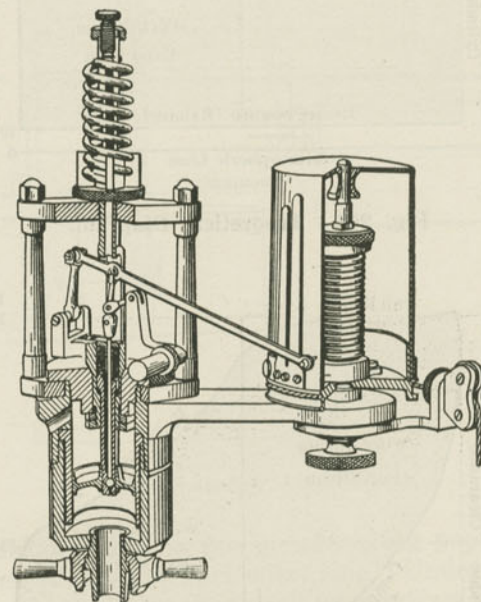

Fig. 266. Crosby Indicator.
*A.* There is a small cylinder (see Fig. 266) which can be put in steam communication with the counterbore at either end of the cylinder (it is better to use one for each end). In this there plays accurately, but